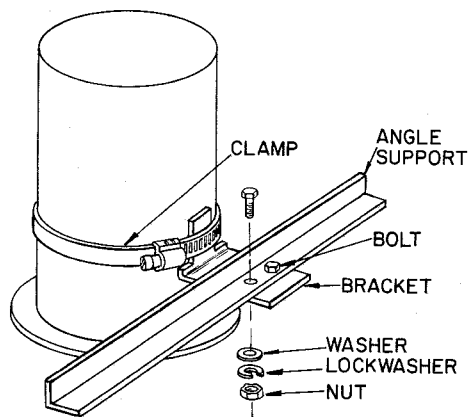

Figure 10
2. Install a motor bracket on the underside of each deck-mounted angle support so that their tabs are flush with their motor's sides and directed upwards as shown in Figure 10. Secure with 1/4-20 x 3/4 inch bolts inserted from the top side with a washer, lockwasher and nut below each support. Finger tighten each nut.
3. Install a motor clamp around each motor so that it engages its corresponding bracket tab. See Figure 10. While holding the clamp parallel with the mower deck, tighten the clamp screw. Locate the screw toward the angle support to be inconspicuous when the mower is assembled to tractor. After the clamps are tightened, tighten the nuts holding the motor brackets to the angle supports.